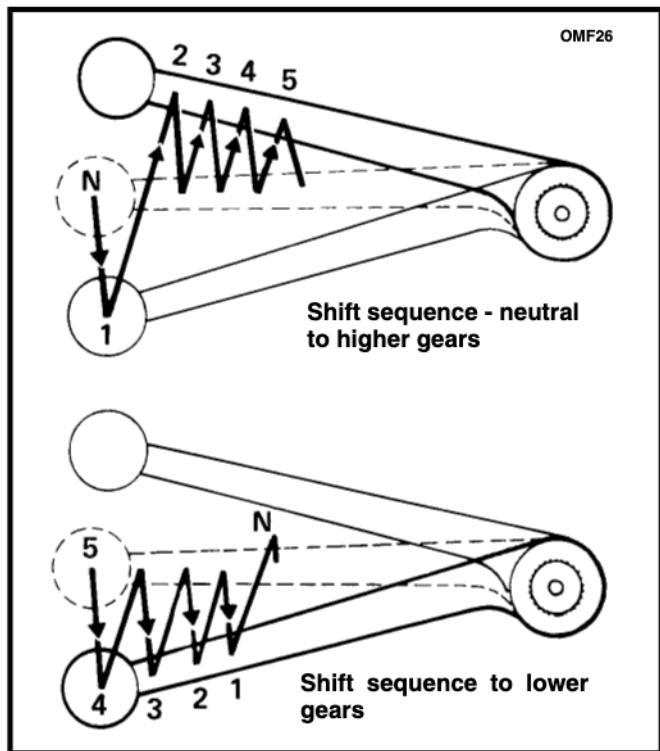

Figure 30. 5 - Speed Shifting Sequence
See Figure 2. To start moving with motorcycle upright and engine idling, pull the clutch lever (6) to fully disengage clutch. See Figure 30. Push shifter lever down firmly, but gently, to end of its travel to engage first gear. Then release the clutch lever slowly to engage the clutch and at the same time, open throttle gradually.